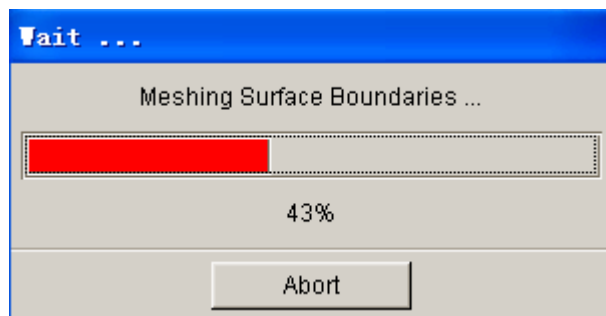
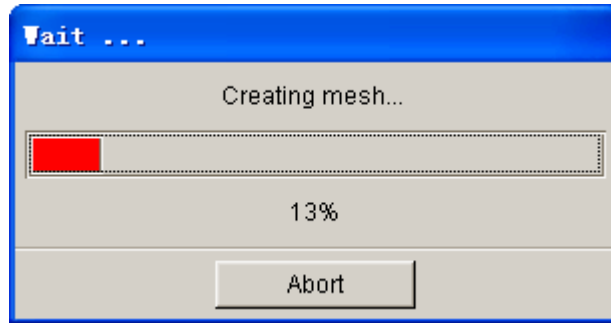

Figure 5.3.8 Meshing Surface Boundaries
Figure 5.3.9 Creating Mesh
- After the user selects or accepts the gap tolerance, eta/DYNAFORM begins to mesh the surface boundaries. The status windows for meshing surface boundary and mesh generation are illustrated in Figure 5.3.8 and Figure 5.3.9, respectively.